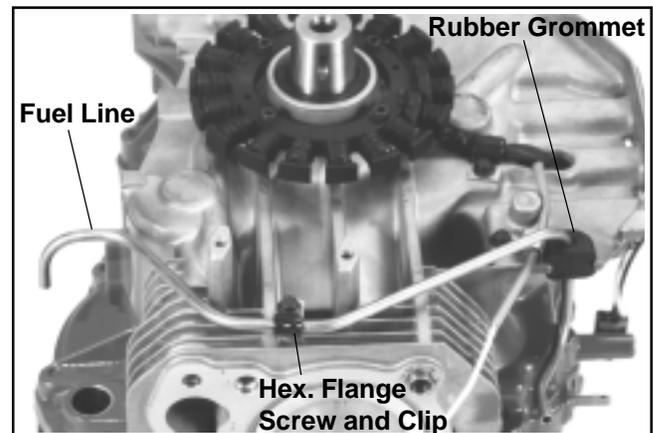

Figure 11-27. Installing Fuel Line.
2. Install the fuel line, clamp and hex. flange screw. Make sure the grommet is inserted in the notch in the crankcase. See Figure 11-27.\*